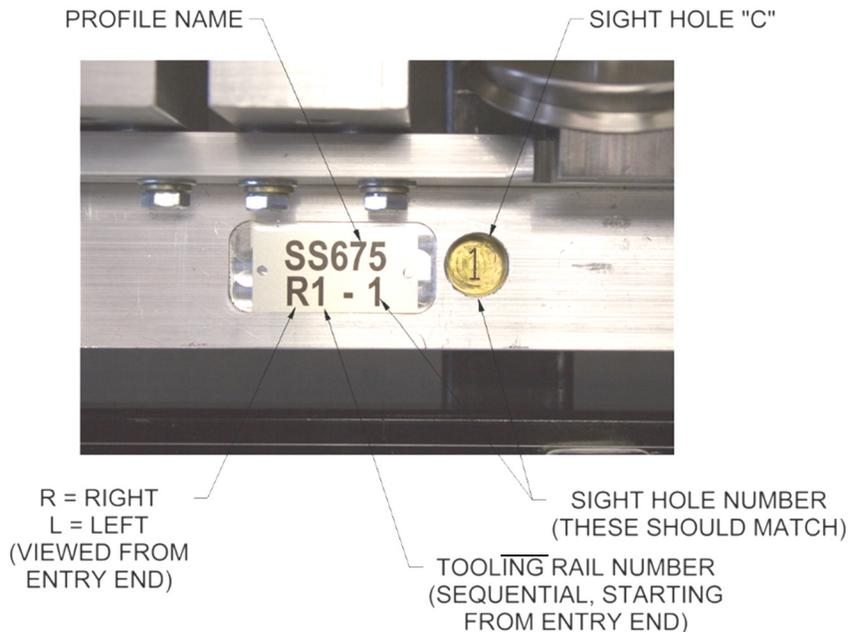
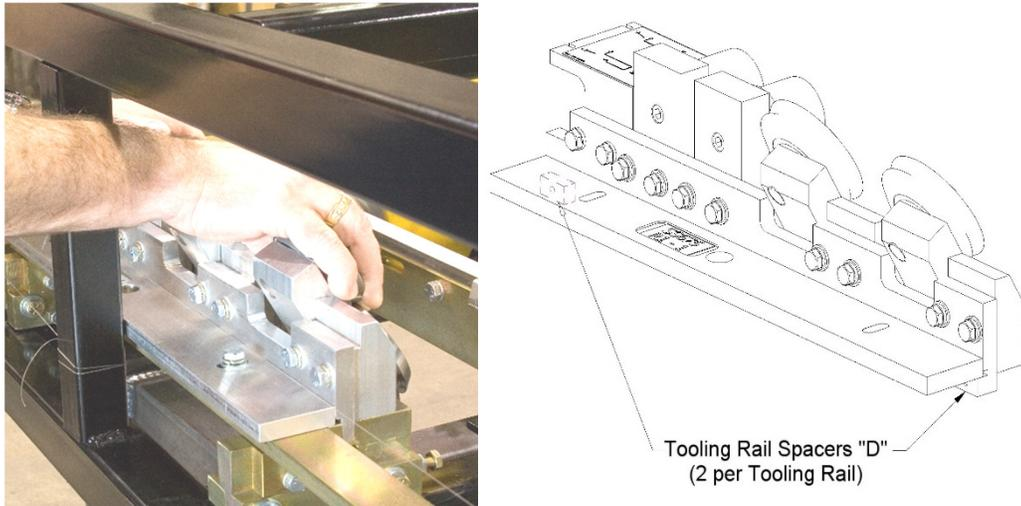

Figure 61: Tooling Rail Identification
Figure 62: R1 Tooling Rail Spacers
7. Find the R1 Tooling Rail and set it flat on top of the Right Side Fixed Mount Rail #1 making sure the correct number shows in Sight Hole “C” (Figure 61). Thread the two mounting bolts into the slots of the rail and finger-tighten them. Pull the Tooling Rail assembly toward the outside of the machine until the two Tooling Rail Spacers “D” (Figure 62) contact the face of the mounting rail. Hold it in place while tightening the mounting bolts.